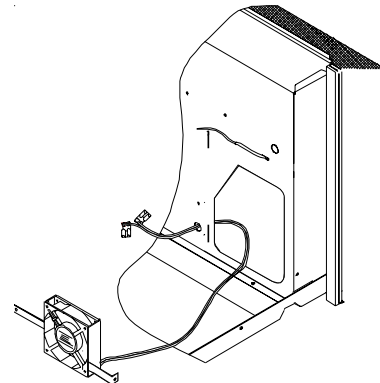

Figure 6
8. Route the two wires from the vent fan through the hole in the panel where the sheet metal knockout is located. The wires should be routed through the vent opening and come out through the wire hole (Figure 6).